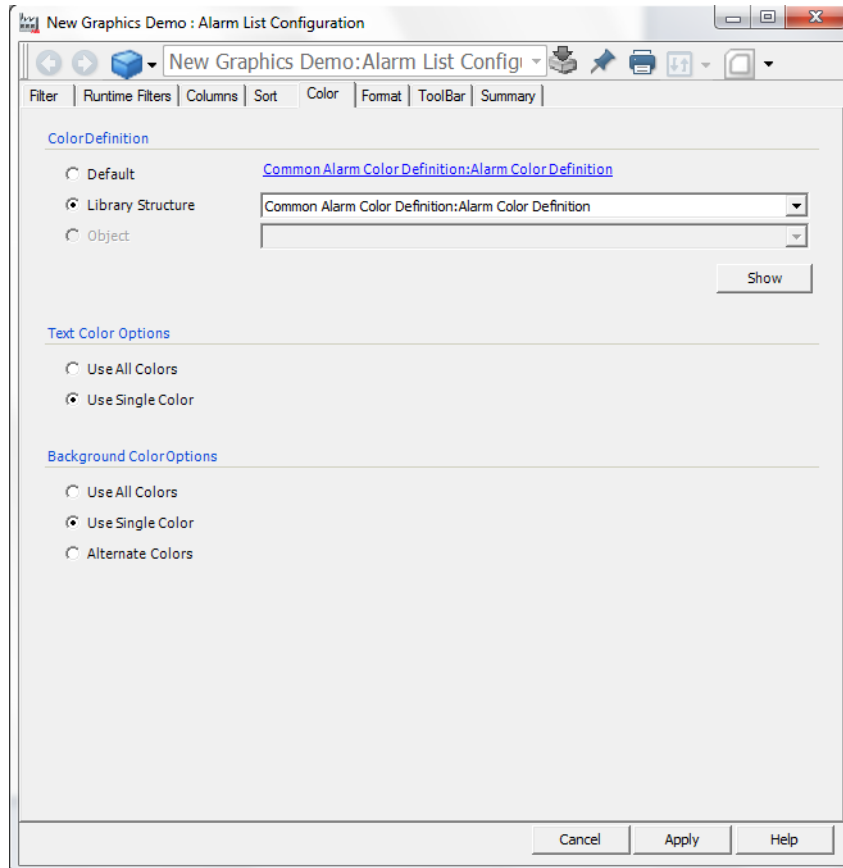

Figure 158. Color Tab
- In the **List Alternating Background Colors** area you specify which background colors that will be alternated when alarms are displayed in the alarm and event list. This setting only applies when you have selected Alternate Colors in the Colors tab in the alarm and event list configuration, see Figure 158.
Color Tab. The **Color** tab is used for specifying the color definition that the list configuration should use. See Figure 158.